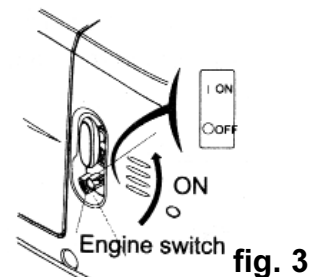

fig. 3
- 3.2.3 Set the Engine Switch to the ON position. Refer to fig. 3.